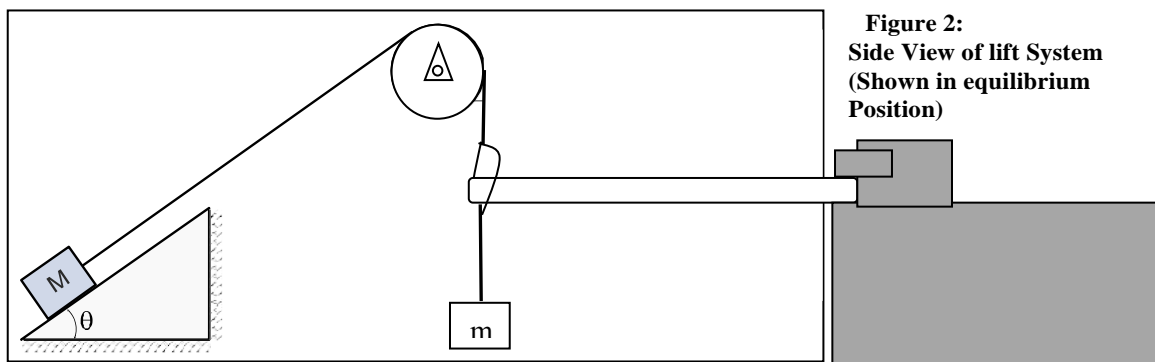

Figure 2:
The first test is done by placing counterbalancing masses on the inclined plane load carrier to achieve equilibrium as noted below in figure 2.
- **Equilibrium Position:** (See Figure 2)